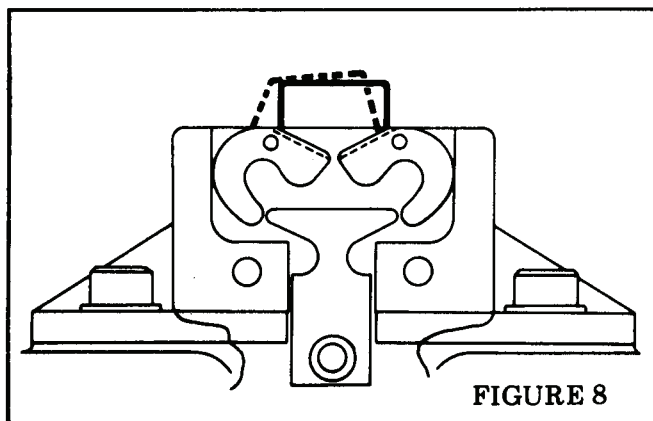

FIGURE 8
The formers (Index A & B, figure 6) perform two functions: (1) They bend the wire over the mandrel and form it into a stitch. (2) They guide and support the stitch as it is driven through the work material. The legs of an unclinchd stitch should be at right angles to the crown. When the formers become worn, the legs tend to flare out. See figure 8. This causes the legs to strike the clincher improperly. As a result, one or both legs will crumple. If the lower end of the former groove becomes chipped, it will not support the wire and may cause the stitch to break at the crown.
The edges of the mandrel determine a definite angle at which the wire is bent to form a stitch. If these edges become worn, the legs of the stitch will flare out and miss the grooves in the clincher. See figure 8. This causes a buckled leg. A worn mandrel can also cause the stitch crown to fracture.